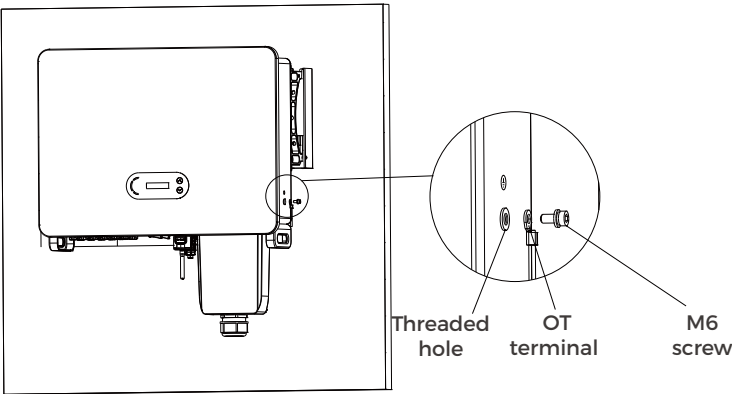

Figure 5-4 Inverter external grounding instruction diagram
Step 2: Select the appropriate cable diameter according to table 5-1, process the cable according to the following picture size requirements, and then pass through PG waterproof joint; The PE wire is connected to the grounding position of the container. External PE refer to Figure 5-4 Inverter external grounding instruction diagram.